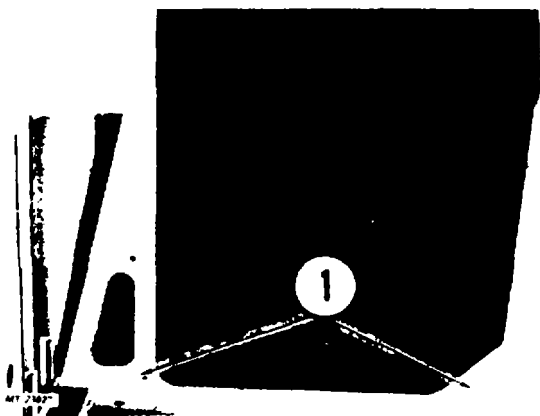

Fig. 38 Location of MIG Weld Seams
2. Separate inside panel of side panel assembly from sill side inner panel. Free inside panel of side panel assembly by cutting through MIG weld (Fig. 38) at bottom of panel.